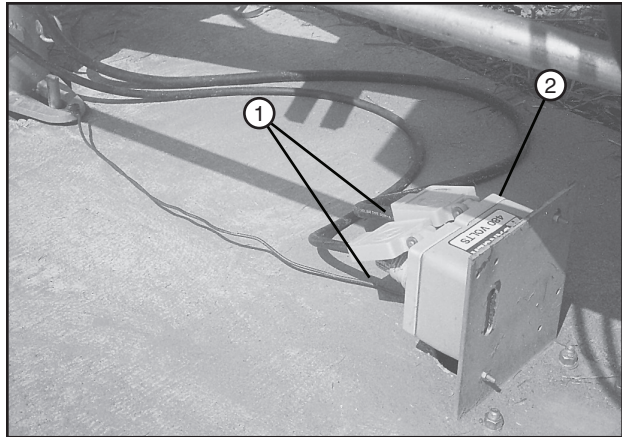

Figure 50-1 1. Power and Pump Control Plugs
5. With the disconnect in the OFF position, unplug the power plug and then unplug the pump control plug from the receptacle. See Figure 50-1.